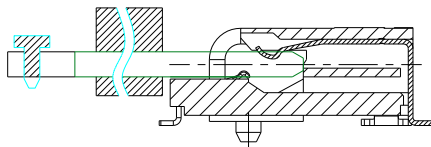

Fig. 6.3
**Step 3rd:** Fix the module with PCB by screw by hand. (Fig. 6.3).